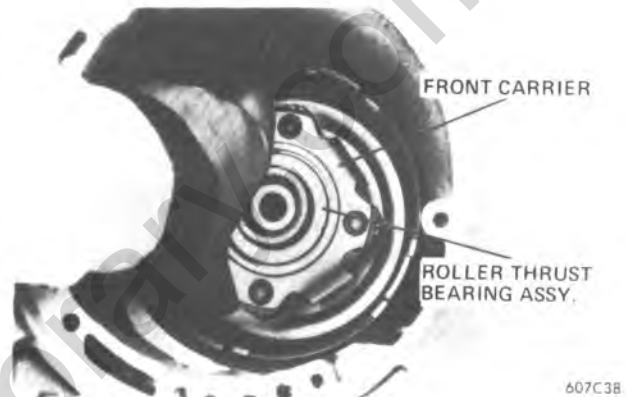

Figure 7A1-107 Installing Front Carrier and Roller Thrust Bearing
8. Install output shaft to turbine shaft, front selective thrust washer, locating in output shaft and retain with petrolatum. (Figure 7A1-112).